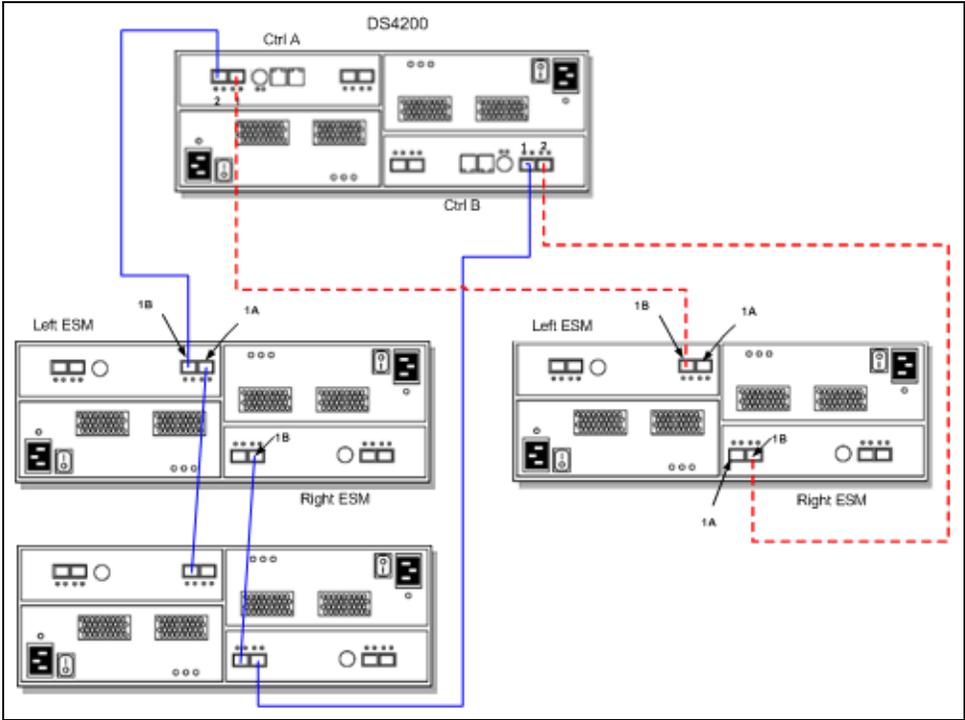
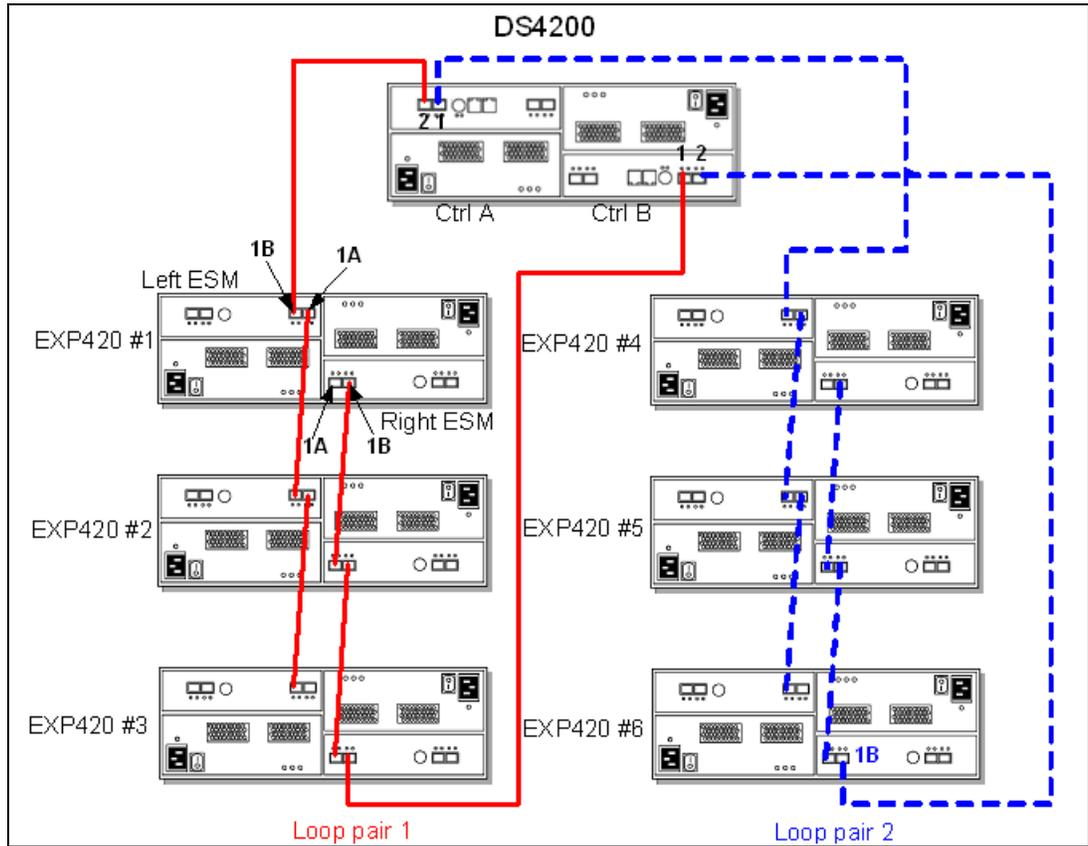

Figure 3-14 DS4200 drive cabling with three EXP420 enclosures
Figure 3-15 DS4200 drive-side connections with two drive channel pairs and EXP420 enclosures
- Beyond two enclosures (up to a maximum of six) make sure that you equally distribute the enclosures among the redundant drive channel pairs (Figure 3-14 and Figure 3-15 on page 30).
When six enclosures are required, the same method is employed again, maintaining drive channel redundancy and using both controllers. See Figure 3-15.
Refer to Figure 3-15. In this example, the DS4200 is cabled using all two-drive channel pairs, assuming that there are six EXP420 expansion enclosures evenly spread out across the drive channel pairs (three enclosures each).